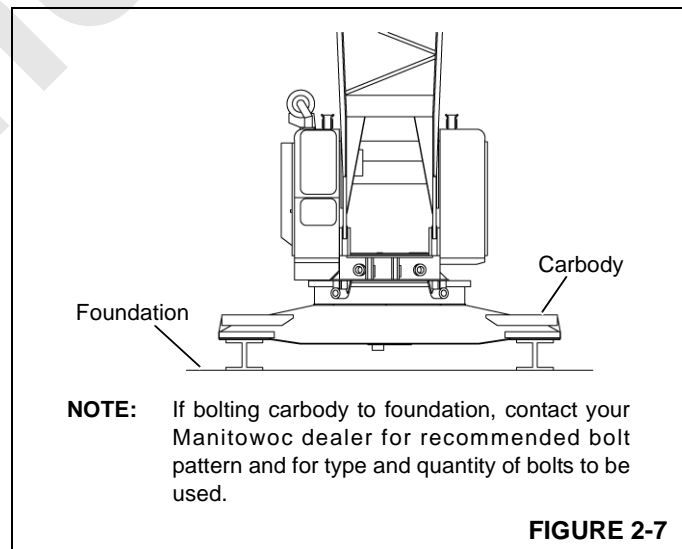

FIGURE 2-7
2. Crane rotating bed mounted on a carbody (crawlers removed) which is securely fastened to the foundation (Figure 2-7).